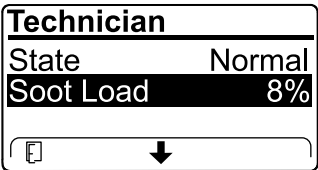

Figure 37
- View the soot load which is measured as the percentage of soot in the DPF(Figure 37); refer to the soot-load table.